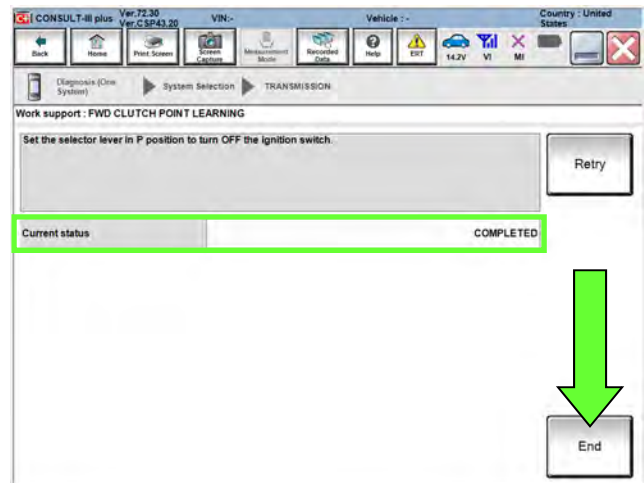

Figure 49
62. When the screen in Figure 49 is displayed, select **End**.